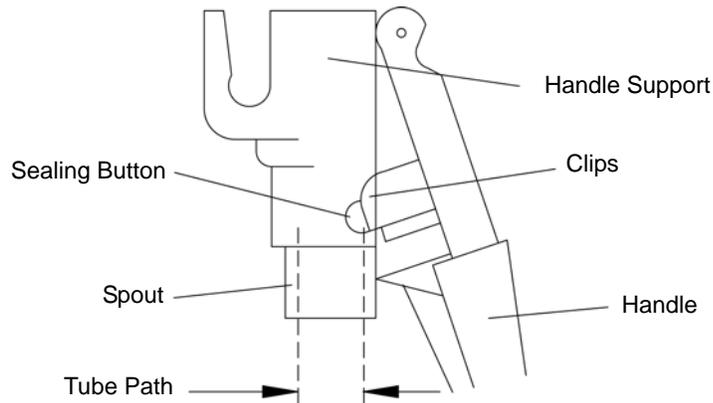

Figure 1
1. Removing the push handles. (See Figure 1)